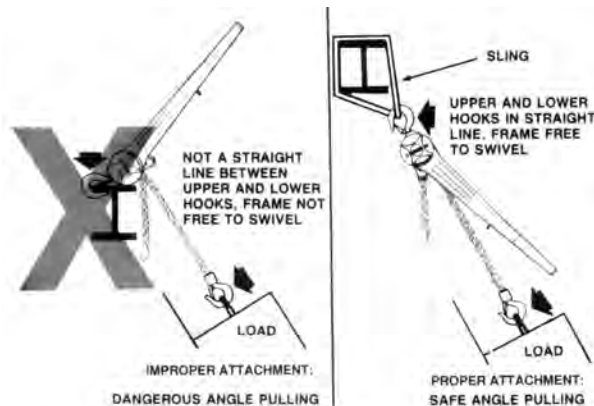

Figure 4. Angle Pulling
TO AVOID INJURY: RIG THE UNIT IN A STRAIGHT LINE HOOK TO HOOK MANNER AND KEEP FRAME FREE TO SWIVEL - SEE FIGURE 4.
Attaching Load - As discussed in installation section, attach load so that upper and lower hooks are in a straight line with the frame free to swivel on upper hook. If proposed use prevents straight line attachment, use an Anchor Sling (see page 2) or chain sling to obtain a straight line pull. Refer to Figure 4.
13. Do not operate the hoist unless it is rigged to pull in a straight line from hook to hook, and the frame is free to swivel on the upper hook. Refer to Figure 4.